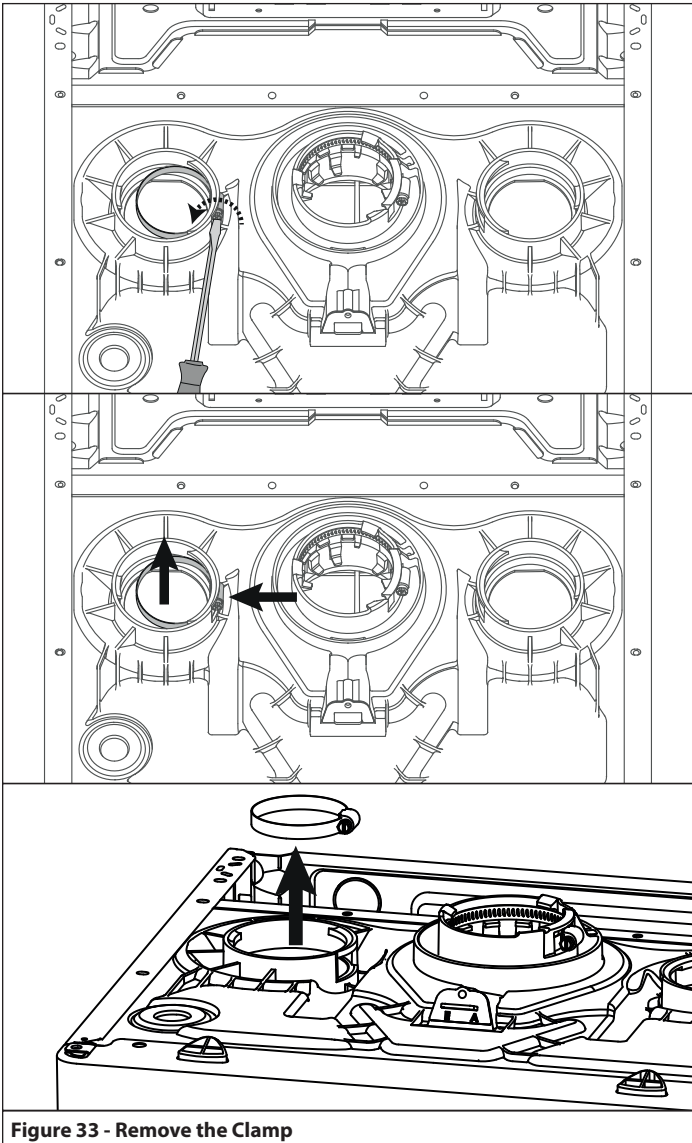

Figure 33 - Remove the Clamp
- If using the right side connection, remove the gear clamp from the left side connection and install it on the right side. See Figure 33.
- Tighten the gear clamp using a screwdriver. See Figure 33.